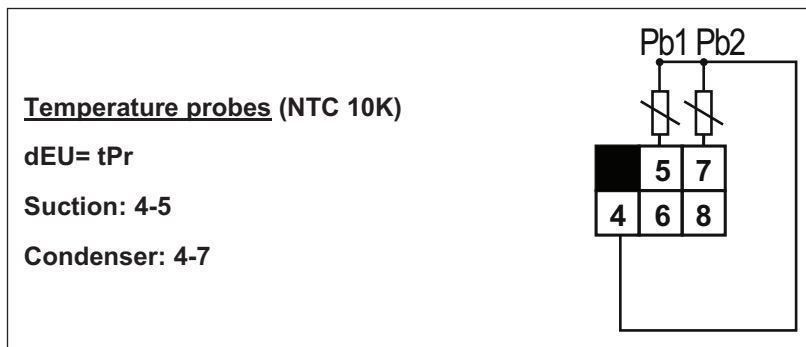

Figure 4b – Wiring Diagram for NTC 10K Temperature Probes
- 0.5-4.5V ratiometric pressure transducers (refer to **Figure 4b**)